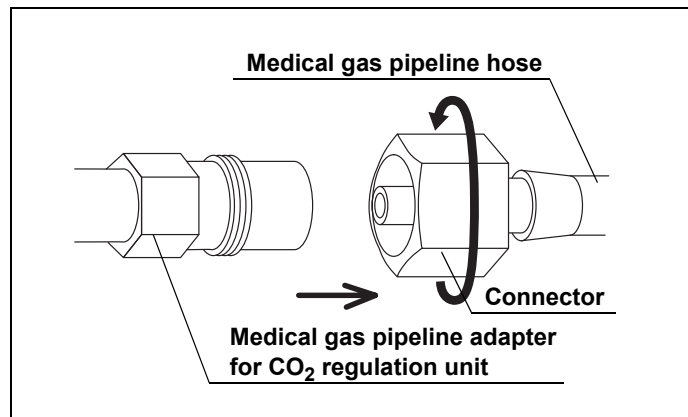

Figure 3.5
- 4 Connect the medical gas pipeline adapter to the medical gas pipeline hose and tighten the adapter manually with a force (about 5 N·m (0.5 kgf/m)) until the position where the connector is stopped. (See Figure 3.5)